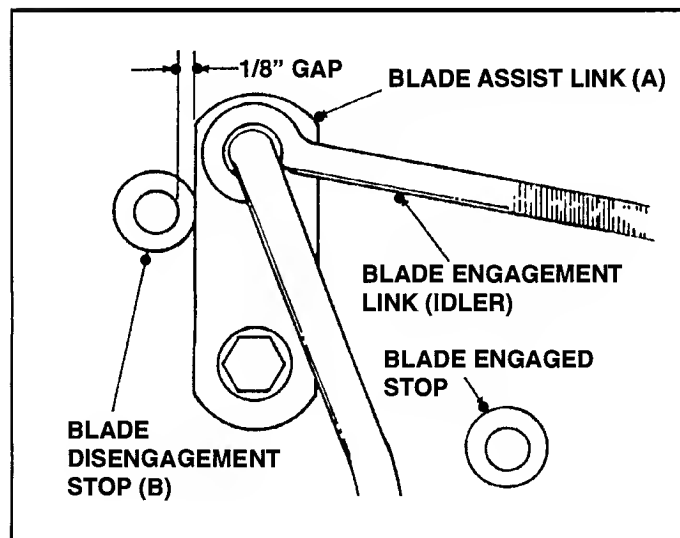

FIGURE 5.13
- Check the Deck Idler to see if there is a 1/8" gap between the Blade Assist Link (A) and Blade Disengagement Stop (B). See Figure 5.13.
C. Adjust the Blade Brake Carriage Bolt (E) IN or OUT until there is a 1/8" gap between the Link (A) and Stop (B). See Figures 5.13 & 5.14.
(Follow Step A. in 5.7 and refer to Figures 5.13 & 5.14)
B. Adjust the Blade Brake Carriage Bolt IN or OUT until there is a 1/8" gap between the Link (A, Fig. 5.13) and Stop (B, Fig. 5.13).
C. Tighten Jam Nut (F).